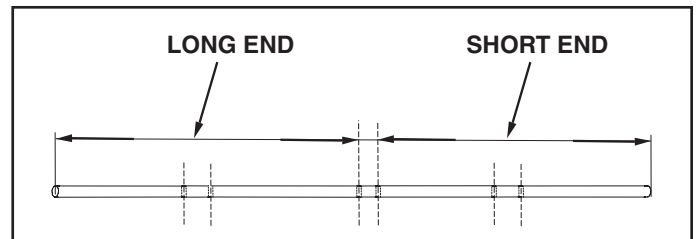

FIGURE 3
3. Measure the distance of the center “set” of drilled holes to either end of the shaft to find the “short end” of the shaft. The holes are offset from center to allow assembly of the handle. See figure 3.
4. Position the shaft with the “short end” to left for assembly. See figure 3.